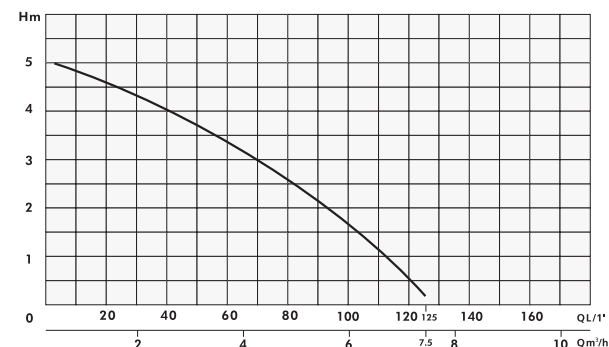

Fig.1
- 2. Slide the handle for carrying and suspending the pump into the grooves as shown in Fig. 1 to secure it in place (it will click in), otherwise the pump suspended by the handle could fall into the pumped liquid.